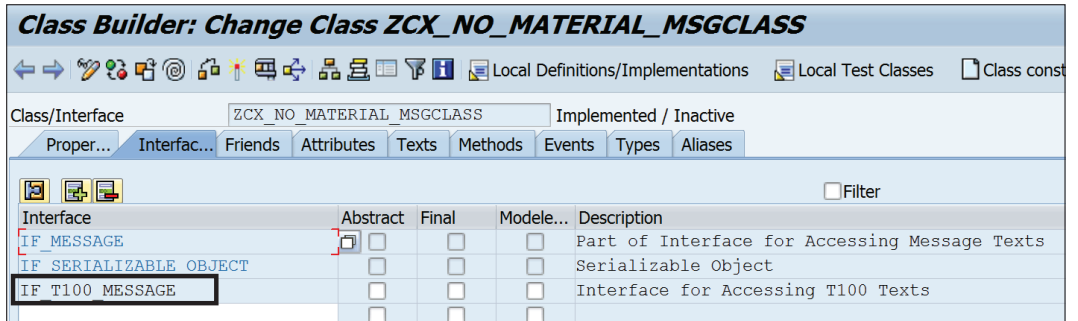

Figure 9.26 IF_T100_MESSAGE Interface Added to Message Class
2. Once this checkbox is selected, the system automatically adds an IF_T100_MESSAGE interface to the message class, which is used to access the messages stored in message class (see Figure 9.26).